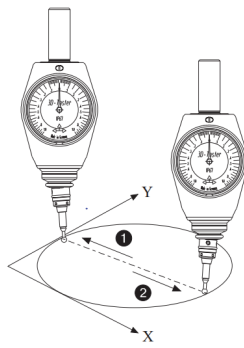

Figure 9
- Place the 3D tester probe into the bore and proceed along the X-axis until the probe contact with workpiece and the pointer points "0" (Figure 9).